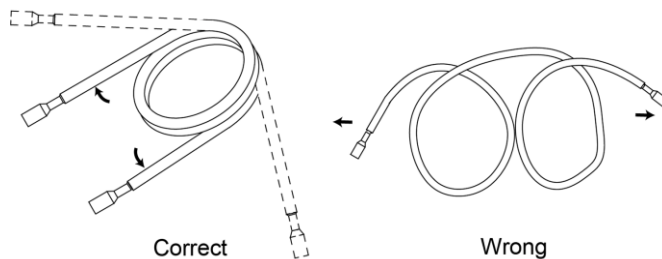

Fig. 14
- (2) Do not bend the pipe over  $90^{\circ}$ .
- (3) If pipe is repeatedly bent or stretched, it will get hard and difficult to bend and stretch again. Therefore, do not bend or stretch the bend for over 3 times.
- (4) In case that direct bending will open cracks to the pipe, first use sharp cutter to cut the insulating layer, as shown in Fig.14. Do not bend the pipe until it is exposed. When